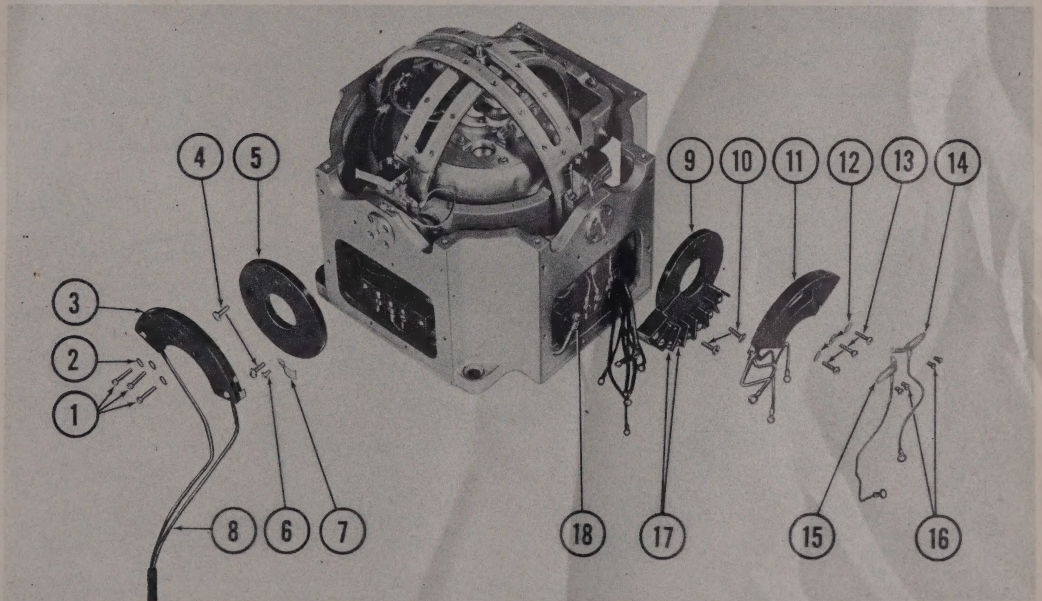

Figure 164 — Potentiometer Assemblies, Exploded View
(2) REMOVE POTENTIOMETERS.
(a) (See figure 164.) Remove the two terminal screws (17) connecting the two yellow leads (8) from the elevator potentiometer to the triple potentiometer terminal panel (9).
(c) (See figure 164.) Remove two screws (4) from the elevator potentiometer mounting plate (5); remove potentiometer assembly.
(See figure 164.)